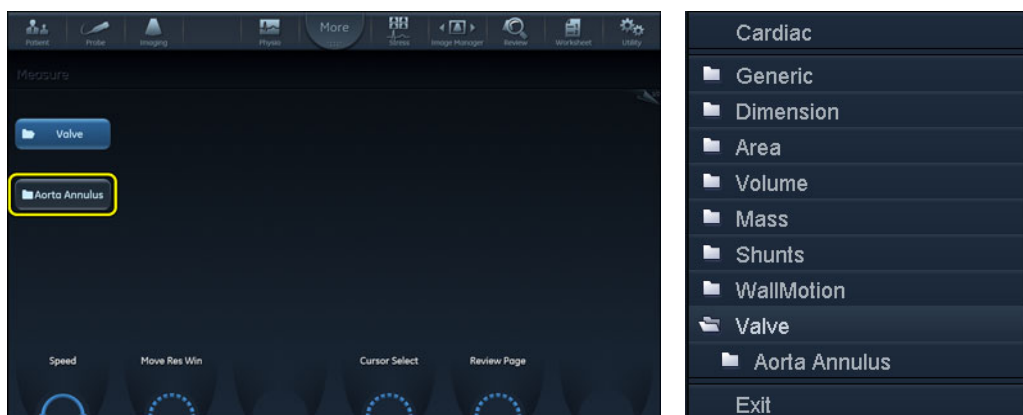

Figure 8-42. Selection of the 4D Auto AVQ tool
3. Select **Valve/4D Auto AVQ** (Figure 8-42).